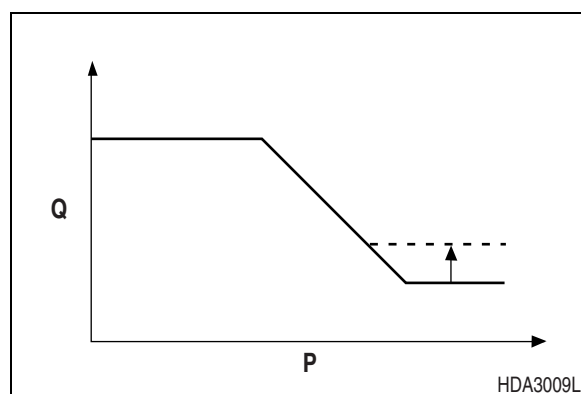

Figure 11
To increase minimum discharge flow (also by 5.6 l/min [0.025 gpm]), tighten adjusting screw (953) by 1/4 turn. Figure 11 shows the effect of this adjustment on the output characteristics of the pump.